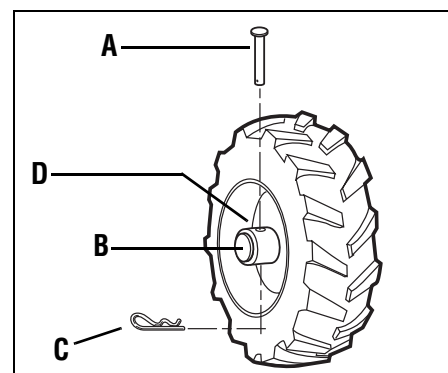

Figure 3-2: WHEEL DRIVE position.
Each wheel is equipped with a wheel drive Klik pin (A, Figures 3-2 and 3-3) that secures the wheel to the wheel shaft (B). The wheels can be positioned in either a WHEEL DRIVE or a FREEWHEEL mode.
3. Remove Clevis Pin and cotter pin (A, Figures 3-2 and 3-3) from wheel drive shaft (B).
4. FOR WHEEL DRIVE MODE (Figure 3-2): Slide wheel outward and align holes in wheel hub (D, Figure 3-2) and wheel shaft (B). Insert Clevis pin (A) through wheel hub (D) and wheel shaft (B) and secure with Cotter Pin (C). Repeat with the other wheel and then remove the support from beneath the transmission.